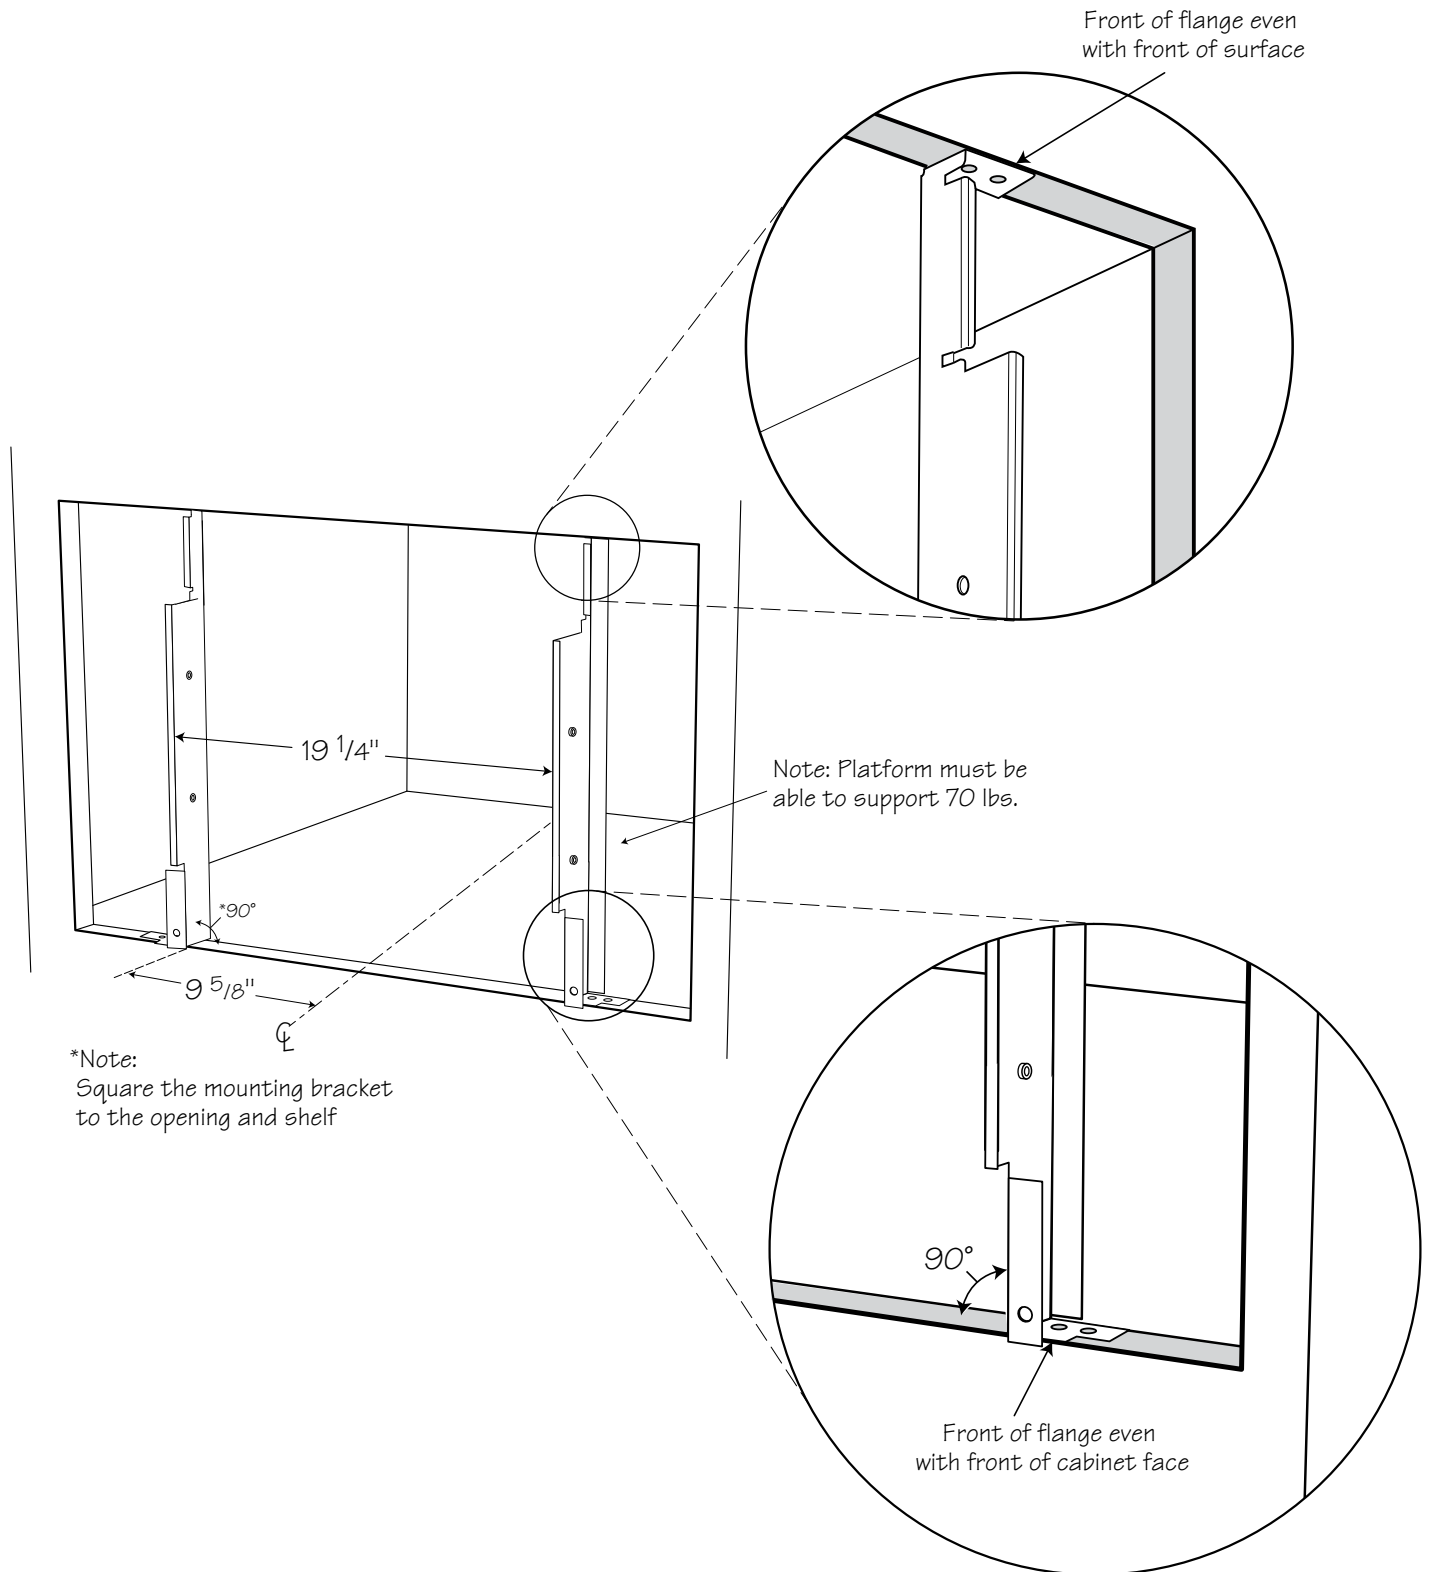

Figure 3
1. Mounting brackets should be installed with the 8 wood screws provided, $19\frac{1}{4}$ " apart from each other and centered in the cabinet opening. Locate position, center punch and drill pilot hole $\frac{1}{8}$ ". See Figure 3.